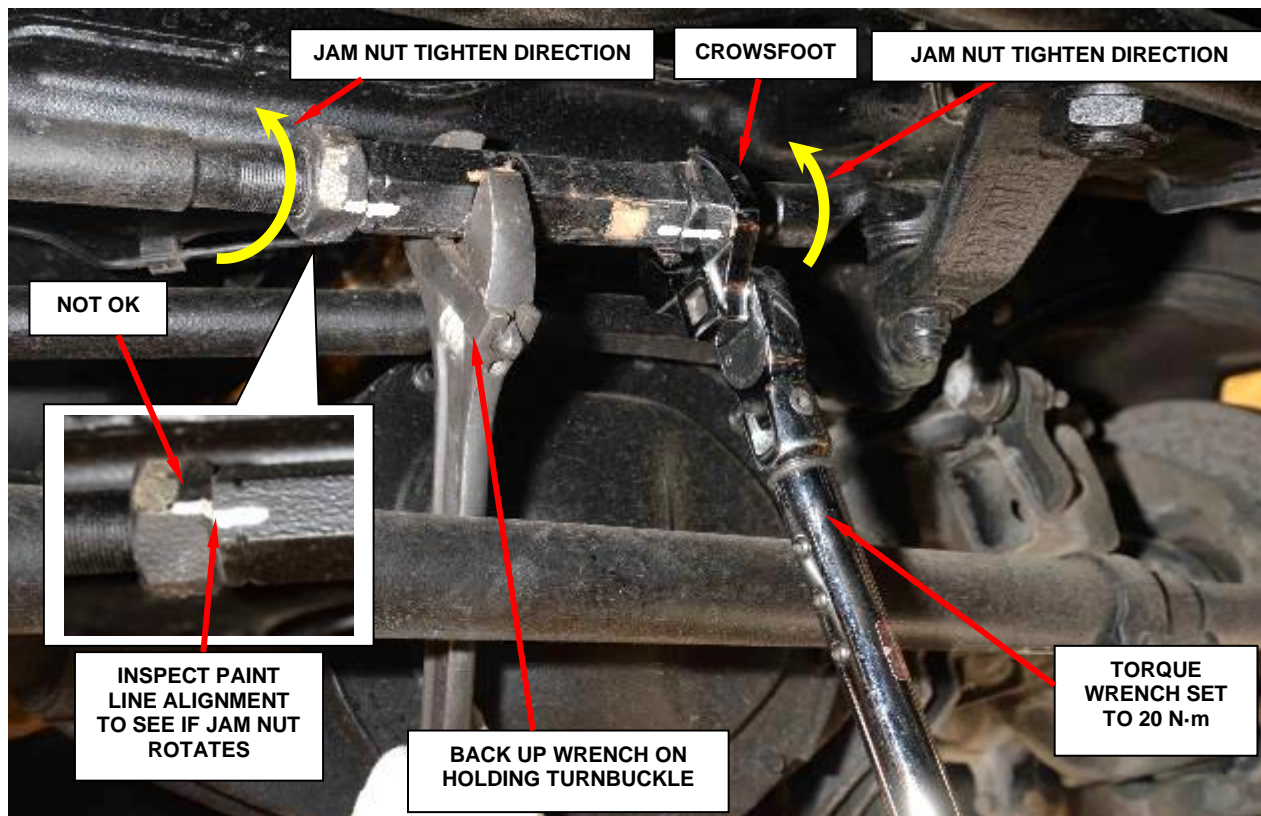

Figure 2 – Inspect for Jam Nut Movement
4. Hold the drag link turnbuckle with back-up wrench (Figure 2).
5. Using a 41 mm crow'sfoot, such as Special Tool 2069400190 (Snap-on SCOM41) or equivalent, set a torque wrench to 20 N·m (15 ft. lbs.) (Figure 2).
6. Rotate each jam nut **in direction as shown** (tightening direction) until wrench clicks or 20 N·m (15 ft. lbs.) is achieved (Figure 2).
2. After adjustment, using a backer wrench and a 41 mm crowfoot, such as Special Tool 2069400190 (Snap-on SCOM41) or equivalent, tighten the drag link turnbuckle jam nuts to 148 N·m (109 ft. lbs.). **Make sure the toe setting does not change during tightening (Figure 2).**
10. Using a backer wrench and a 41 mm crowsfoot, such as Special Tool 2069400190 (Snap-on SCOM41) or equivalent, set a torque wrench to 105 N·m (77 ft. lbs.) and attempt to loosen each jam nut (ref: Figure 2 for set-up).